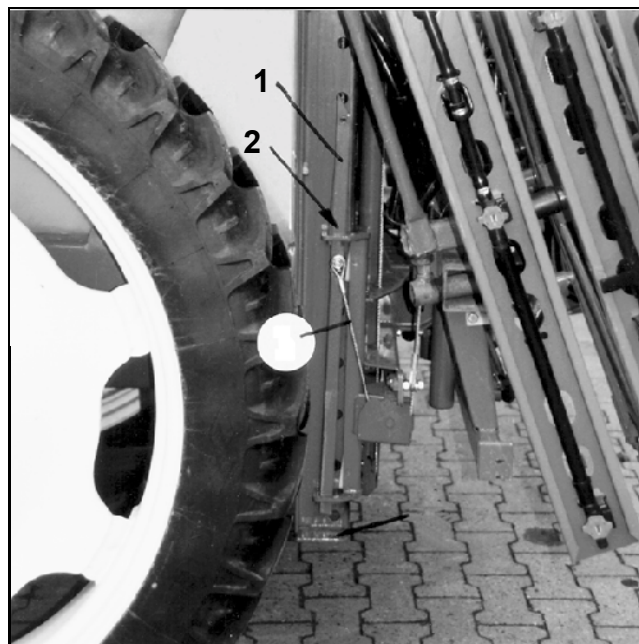

Fig. 54
### Locking the swing compensation into the transport position (Fig. 54)
- Lower the booms in the lowest position with the height adjustment, so that both square profiles (Fig. 54/1) rest on the stop elements and latches (Fig. 54/2) are locked.